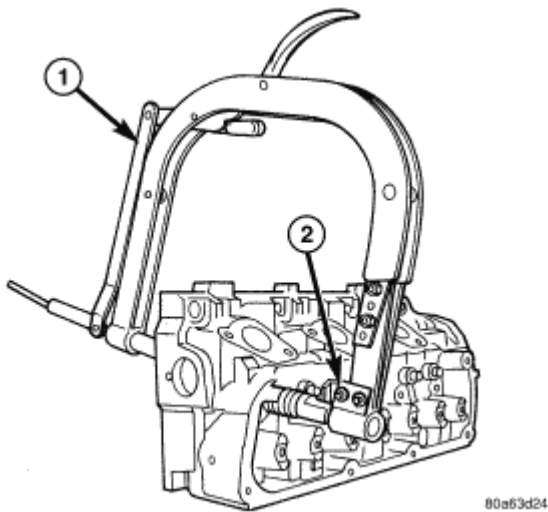

Fig. 101: Identifying Spring Compressor & Adapter
1. With the cylinder head on a bench, position Special Tool C-3422-D with 8464 Adapter on the valve and spring retainer. See **Fig. 101**.